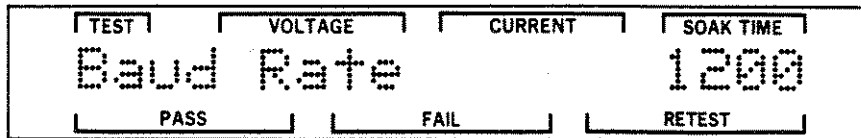

Figure 7-44. Baud Rate Screen
STEP 8. Press the UP or DOWN pushbutton until the Baud Rate screen is displayed. Figure 7-44 is an example of this screen.